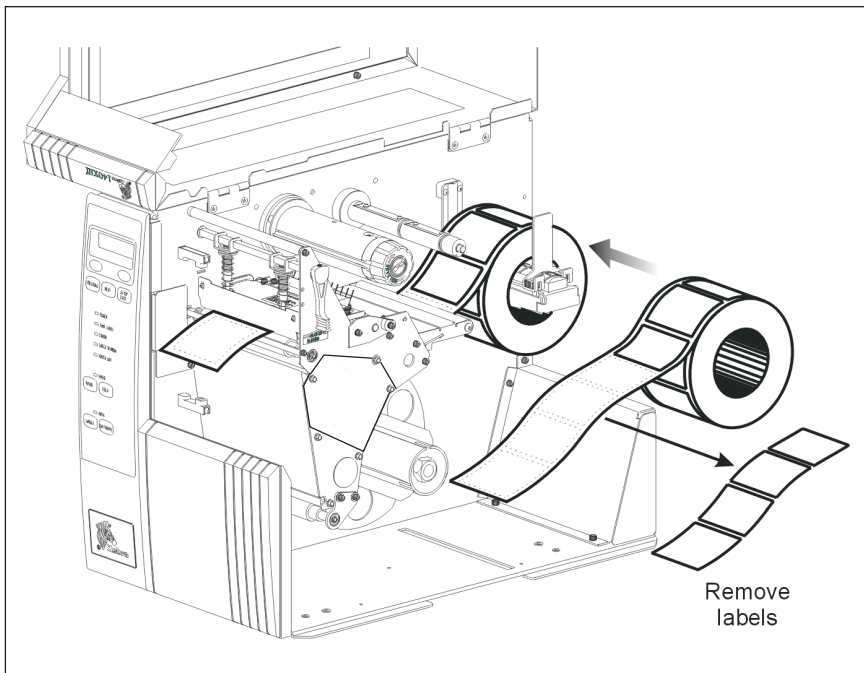

Figure 10
9. Open the printhead. Remove approximately 8” (203 mm) of labels from the media roll, enough so that only the backing material is threaded between the media sensors when the media is loaded (refer to Figure 10).